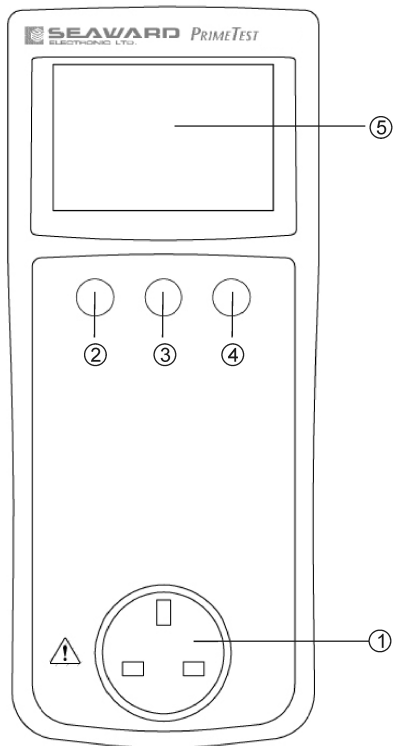
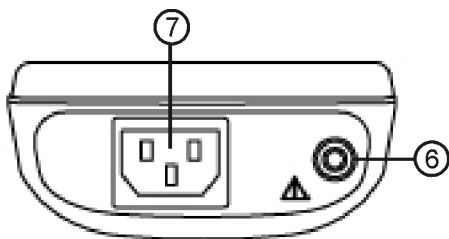

Figure 1. PrimeTest 100 Front View
Figure 2. PrimeTest 100 End View
**Numbers shown in circles e.g. ① refer to figure 1 and figure 2 on page 6.**
- Mains socket on front panel ① for connecting the appliance under test.
- 4mm socket on end panel ⑥ for earth test probe
- IEC socket on end panel ⑦ for mains cord testing.